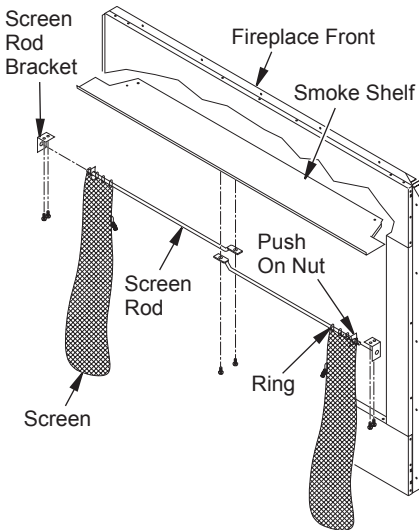

Figure 21 - Installing Fireplace Screen
1. Mount screen rod brackets on left and right side of firebox with #8 x 1/2" screws provided (see Figure 21, page 15).
4. Mount flat end of screen rod with #10 x 5/8" to center of smoke shelf (see Figure 21, page 15).